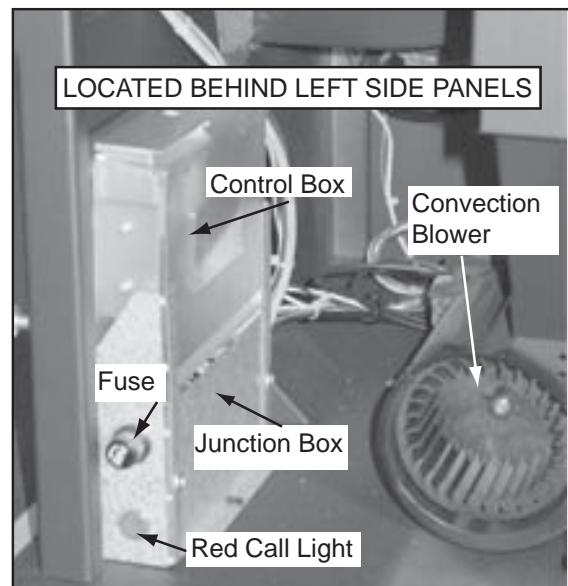

Figure 9.3
4. Look through the hole in the left lower side panel and you will see the red call light on the control box will be on. **Figure 9.3.** This indicates the thermostat is calling for heat. On the CAB50 the light can be viewed from behind through the hole near the bottom left side of the rear panel.
3. Occasionally the appliance may run out of fuel and shut itself down. When this happens, the red call light will be on. **See Figure 9.3, page 9.**